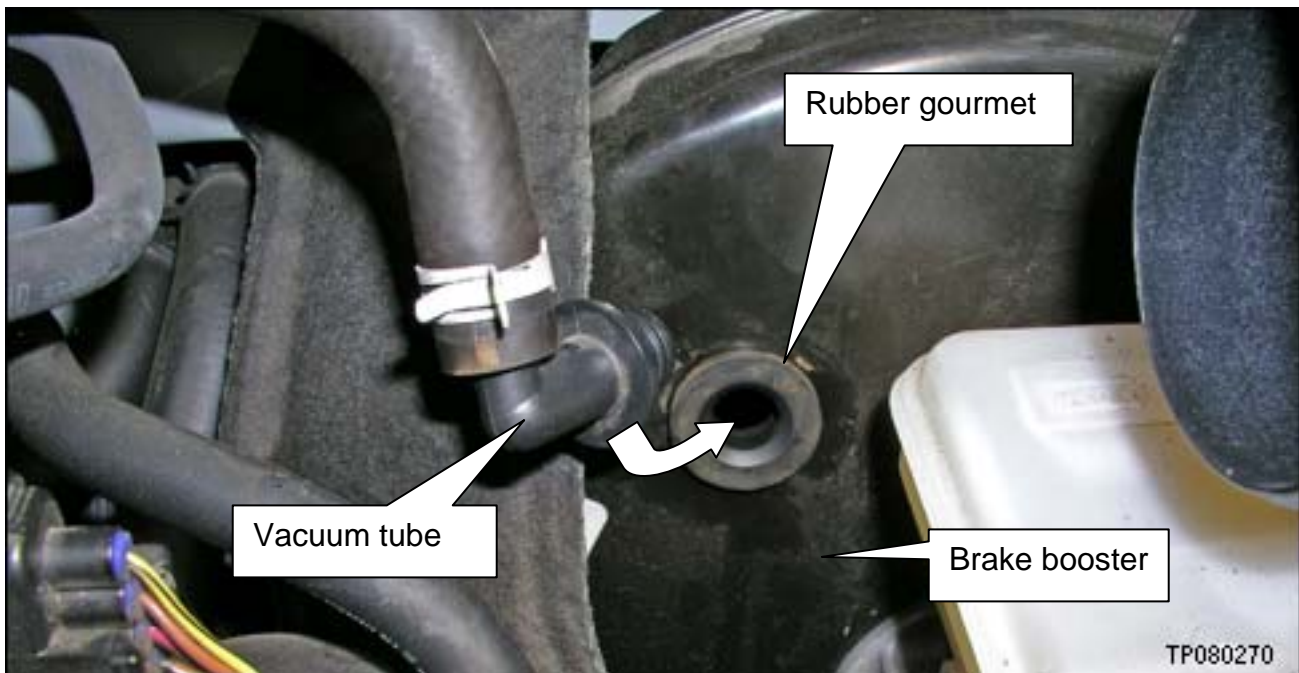

Figure 25
25. Install the vacuum tube rubber grommet into the brake booster (see Figure 25).
26. Carefully install / push the vacuum tube into the brake booster (see Figure 25).